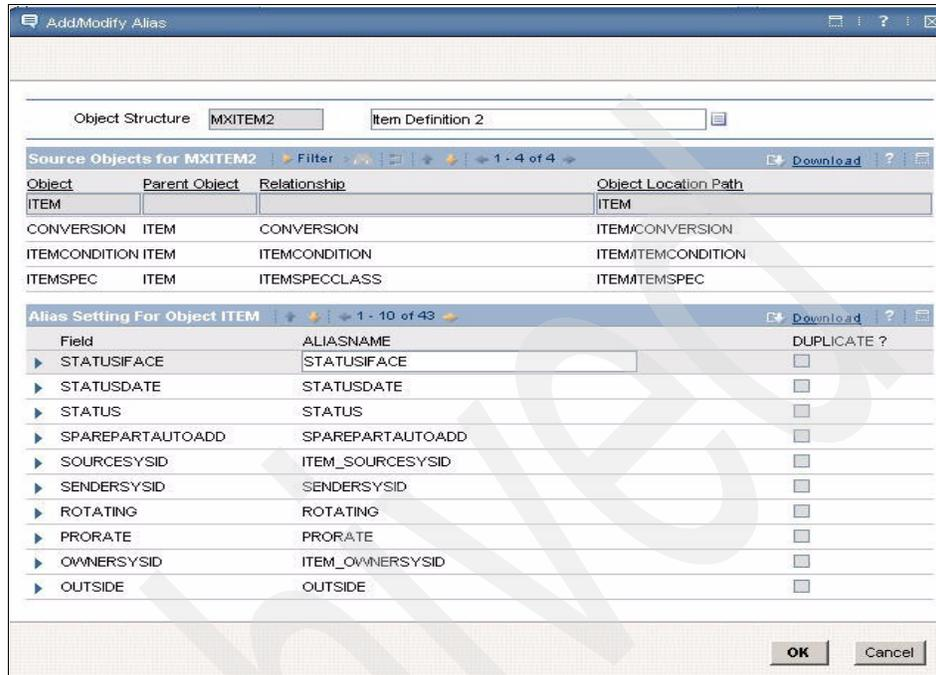

Figure 8-58 Object Structure- Add/Modify Alias
- To view conflicts that may exist due to duplicate fields, click **Select Action** and select **Add/Modify Alias** (see Figure 8-58).